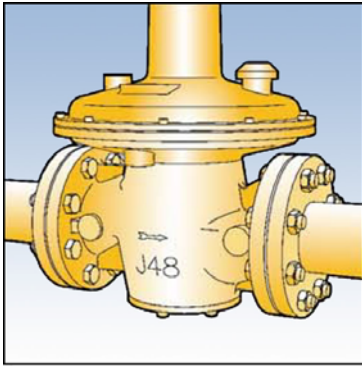

Fig. 1
3. The direction of gas flow must be the same as the arrows on the regulator body. See Fig. 1.